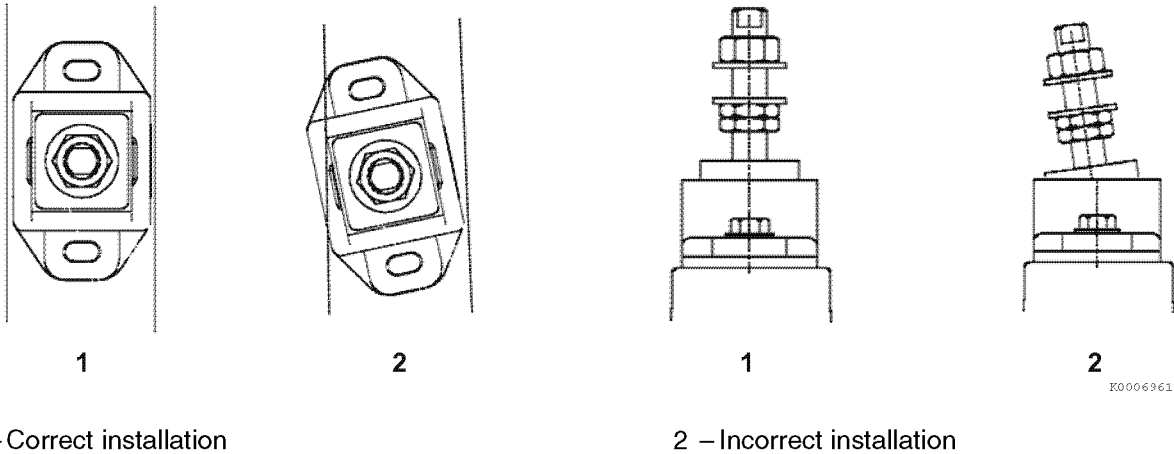

Figure 5-31
- Mounts must be installed parallel to the engine support bracket or engine feet (**Figure 5-31**).
Mounts must be installed perpendicular to the engine support bracket or engine feet (**Figure 5-31**).